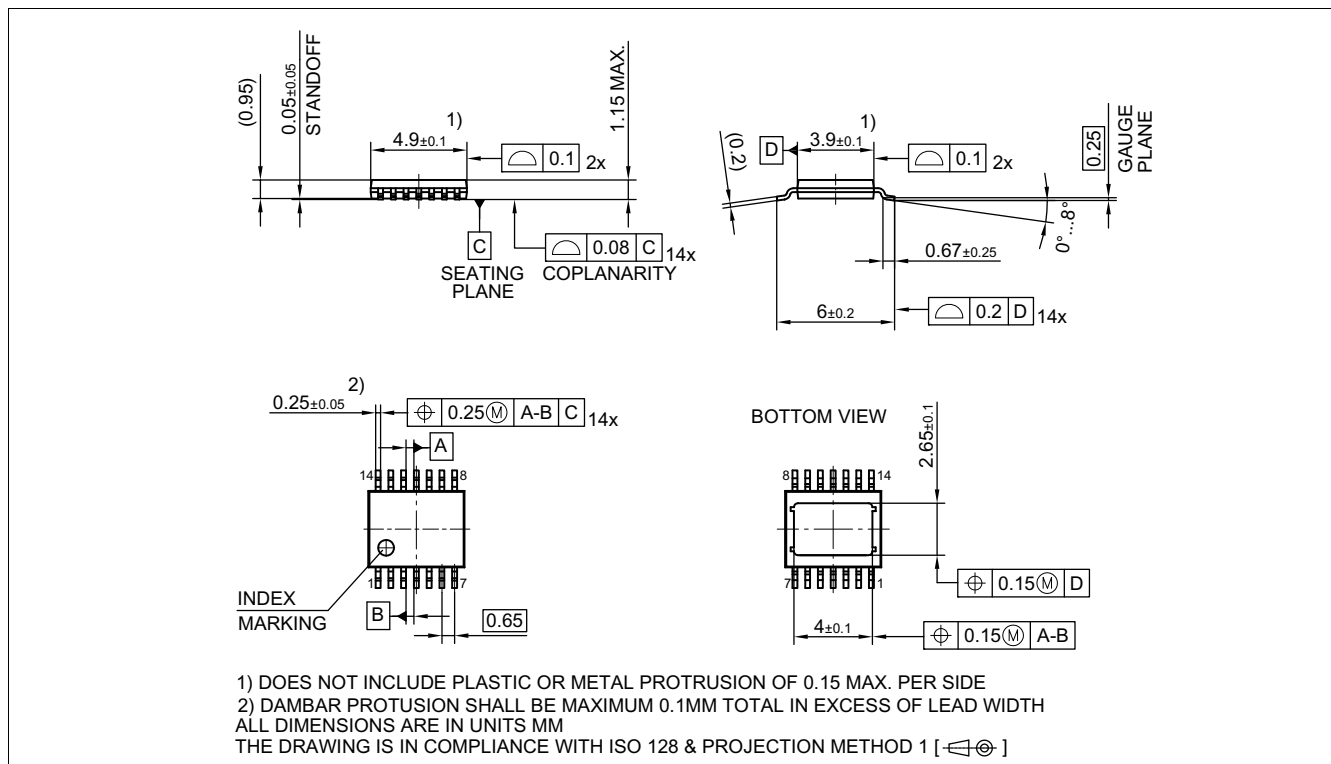
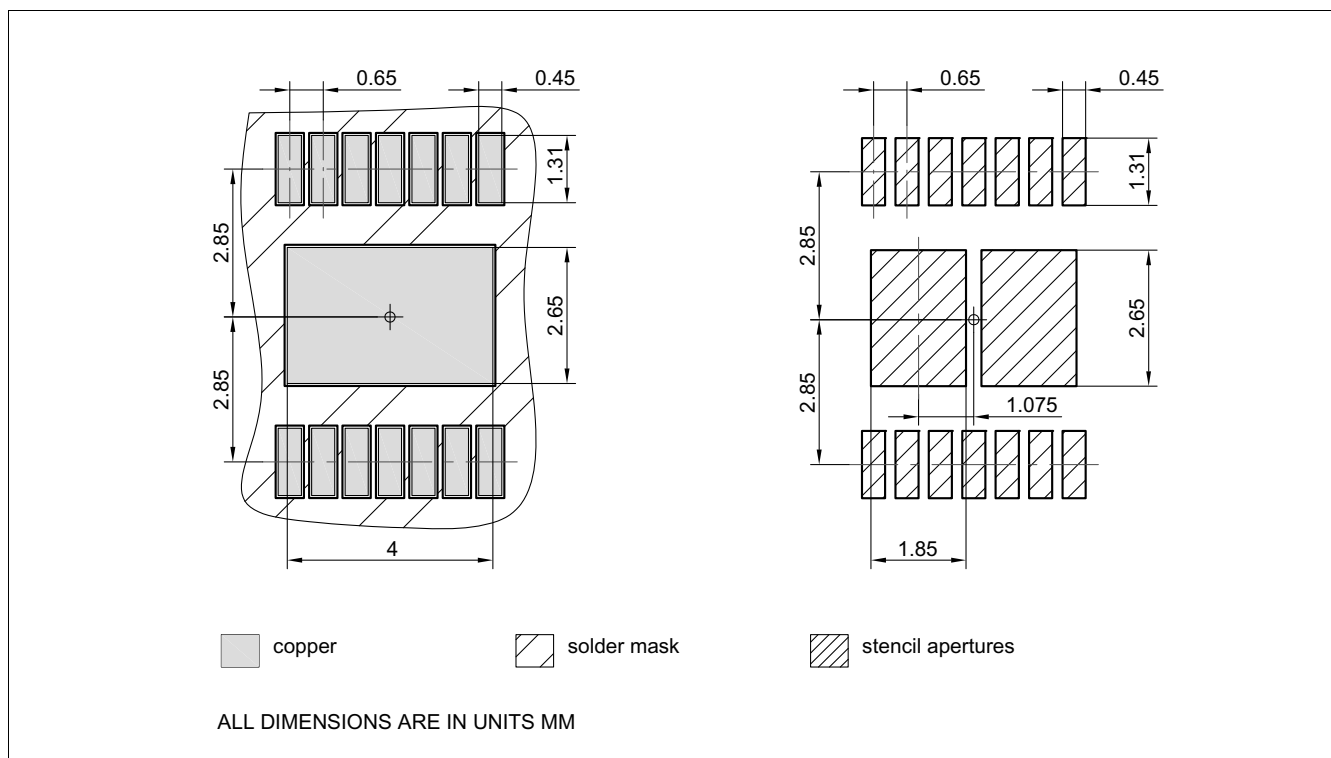

Figure 44 PG-TSDSO-14 (Thin (Slim) Dual Small Outline 14 pins) Package Outline
Figure 45 PG-TSDSO-14 (Thin (Slim) Dual Small Outline 14 pins) Package pads and stencil
1.03 , 2018-10-18	<p>Chapter 9.3.1 updated (typo)</p> <p>Page 1: updated (Package PG-TSDSO-14-22 → Package PG-TSDSO-14)</p> <p>Figure 29 updated</p> <p>Figure 44 updated (PG-TSDSO-14-22 (Thin (Slim) Dual Small Outline 14 pins) Package Outline → PG-TSDSO-14 (Thin (Slim) Dual Small Outline 14 pins) Package Outline)</p> <p>Figure 45 updated (PG-TSDSO-14-22 (Thin (Slim) Dual Small Outline 14 pins) Package pads and stencil → PG-TSDSO-14 (Thin (Slim) Dual Small Outline 14 pins) Package pads and stencil)</p> <p>Table 1 updated ((Symbol: $I_{VS(SLEEP)}$ → $I_{VS(SLEEP)_{85}}$), (Parameter: Minimum Overvoltage protection ($T_J = 25\text{ °C}$) → Minimum Overvoltage protection ($T_J \geq 25\text{ °C}$))</p> <p>P_9.6.0.6 updated (Note or Test Condition: removed unnecessary line-break)</p> <p>Chapter 7.4.1 updated chapter title (PROFET → PROFET™)</p> <p>Table 12 updated table title (PROFET → PROFET™)</p> <p>Chapter 8.6.1 updated chapter title (PROFET → PROFET™)</p> <p>Table 16 updated table title (PROFET → PROFET™)</p> <p>Chapter 9.5.1 updated chapter title (PROFET → PROFET™)</p> <p>Table 21 updated table title (PROFET → PROFET™)</p> <p>P_4.1.0.21, P_4.1.0.22, P_4.1.0.23, P_4.1.0.24 updated (footnote ESD standards)</p> <p>Table 1 updated ($R_{DS(ON)} \rightarrow R_{DS(ON)_{150}}$), ($V_{DS(CLAMP)} \rightarrow V_{DS(CLAMP)_{25}}$)</p> <p>Chapter 8.5.2 updated phrasing</p> <p>P_7.5.4.14 Table subheading "Switching Energy" added</p> <p>P_7.5.4.15 Table subheading "Switching Energy" added</p> <p>Chapter 6.4 added conditions</p> <p>Chapter 7.5 added conditions</p> <p>P_7.5.4.14 updated (Test condition: add "See Figure")</p> <p>P_7.5.4.15 updated (Test condition: add "See Figure")</p> <p>Chapter 8.7 added conditions</p> <p>Chapter 9.6 added conditions</p> <p>P_9.7.4.27 updated (Test condition: add "See Figure")</p> <p>P_9.7.4.29 updated (Test condition: add "See Figure")</p> <p>Chapter 7.3.1 typo corrected (link to Figure 19 added)</p>